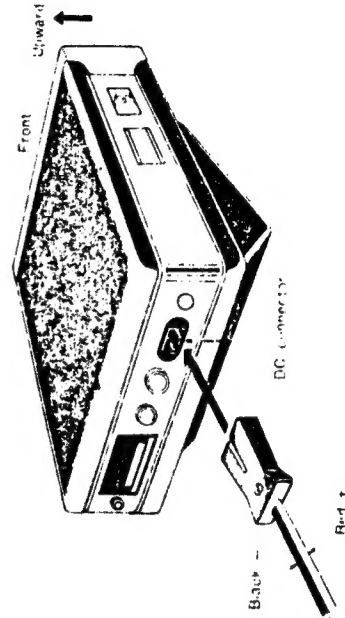

Fig. 8 Power Cord Connection
1. Connect power, antenna and microphone to the set. Since the power cord has (+) and (-) polarity, confirm proper polarity when connecting the cord to the battery posts and set. (Refer to Fig. 8.)